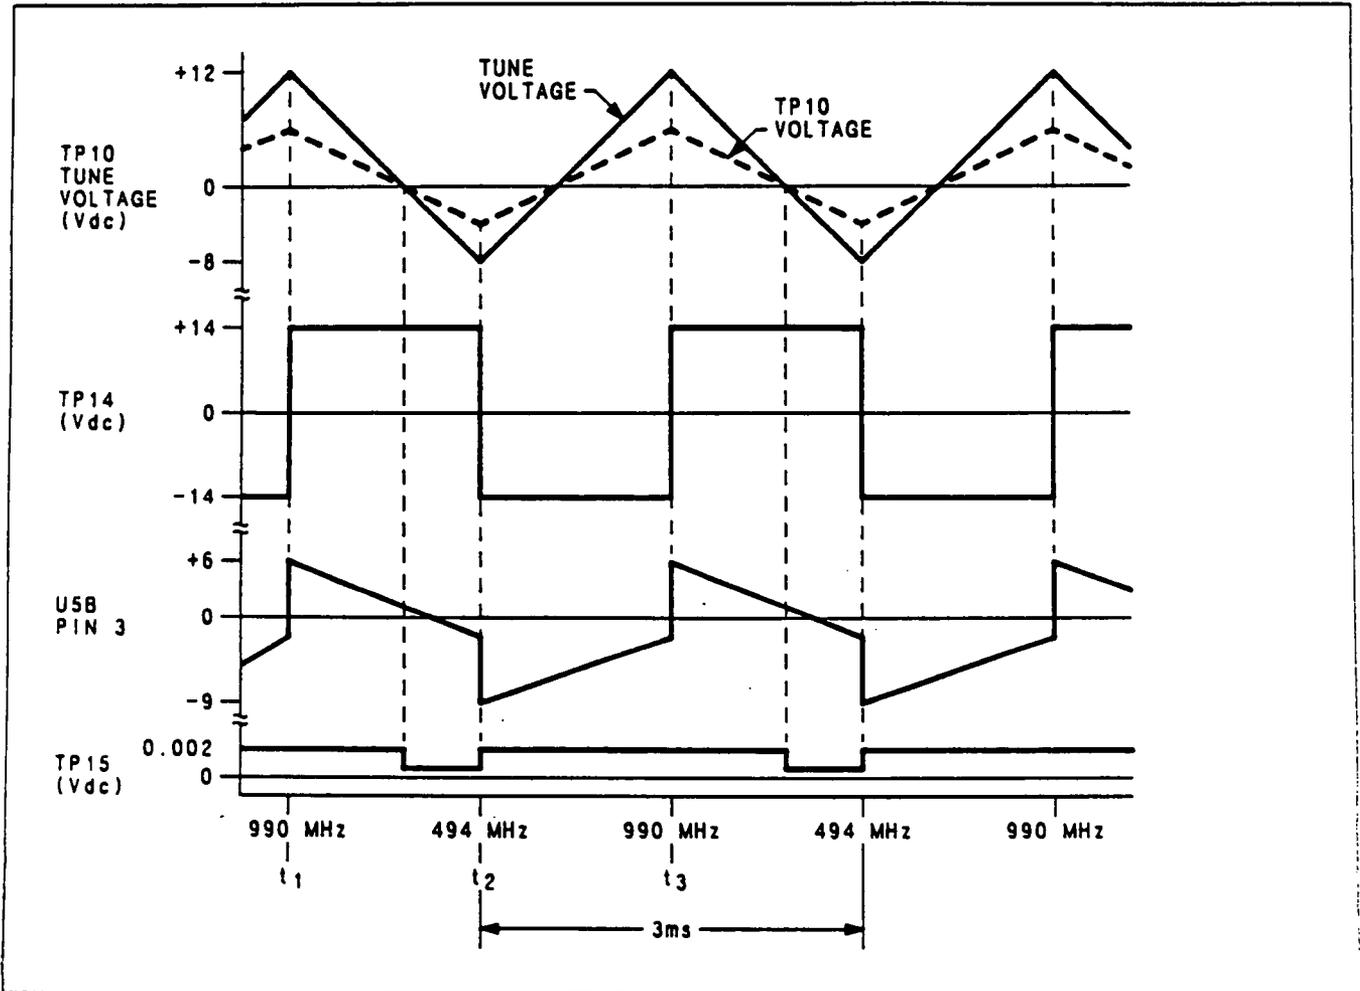

Figure 1. Unlocked High Frequency Loop Waveforms
See the waveforms in Figure 1. The loop is unlocked and the positive input to U5B is more positive than -3.75 Vdc. The output of U5B is switched to +14 Vdc. The VCO is swept across its frequency range (990 to 494 MHz). At time T1 the comparator U5B has just changed state. CR16 is biased on and CR17 is biased off. At time T2 the positive input to U5B becomes more negative than the negative input and the output switches to -14V, CR16 is biased off, CR17 is on and the positive input to U5B is pulled to -8.7V. During this time the instrument would normally have locked. At time T3 the positive input to U5B becomes more positive than the negative input and the output changes to +14V, CR16 is biased on, CR17 is biased off and the positive input of U5B is pulled to +6 volts. This cycle is repeated until a locked voltage is received from the sampler.
- Verify that the waveforms of Figure 1 are correct.